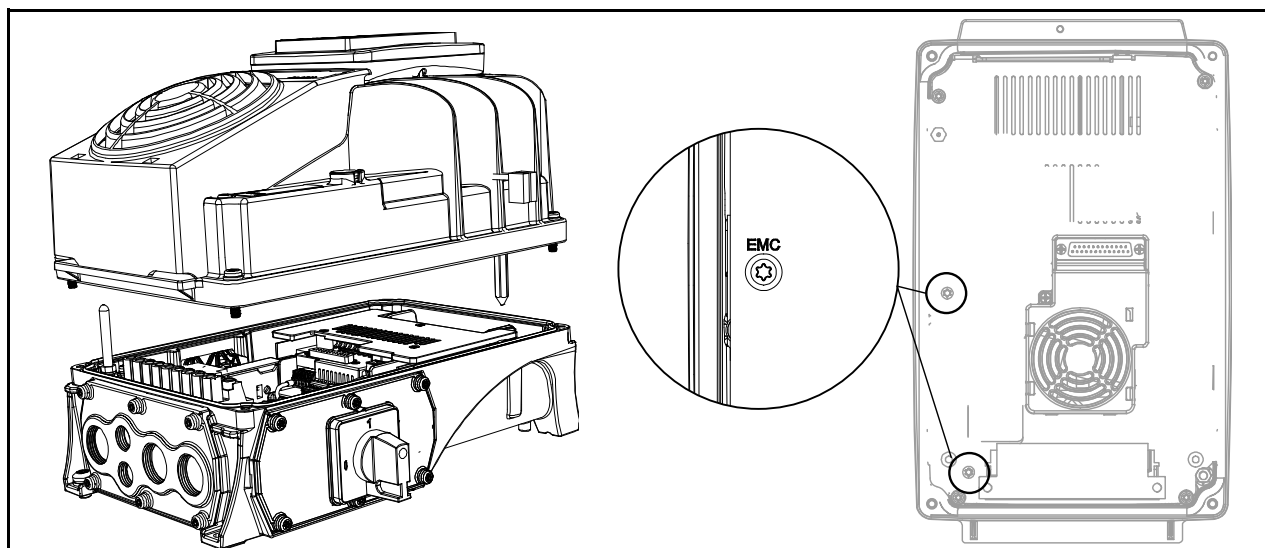
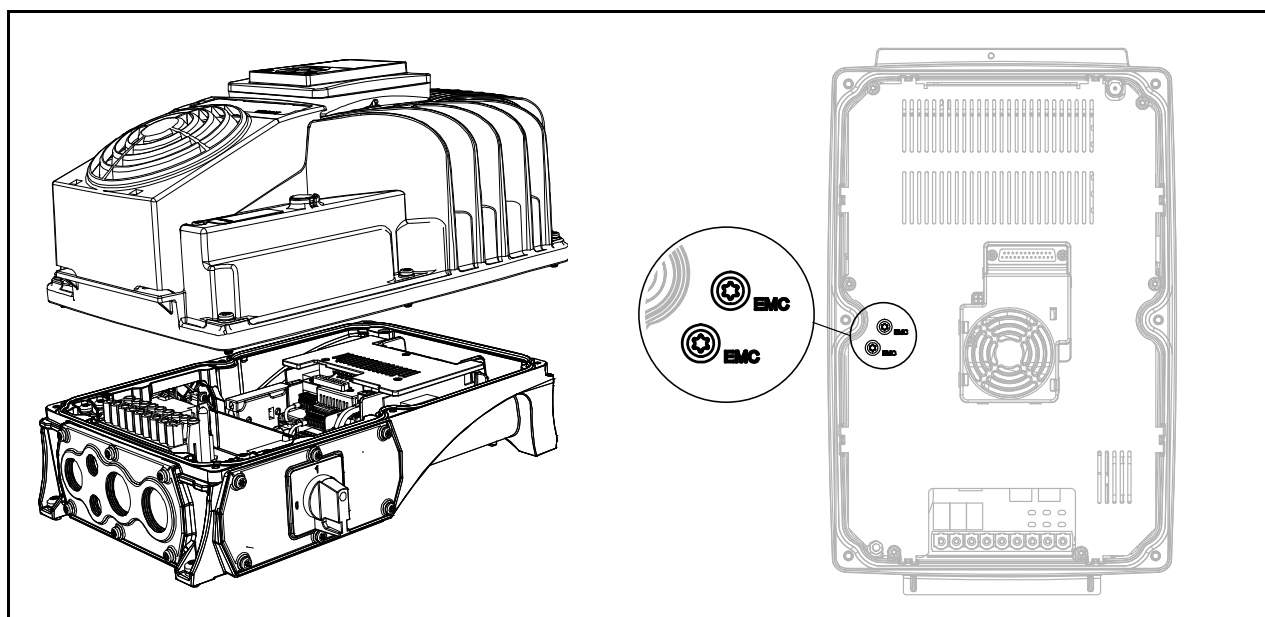
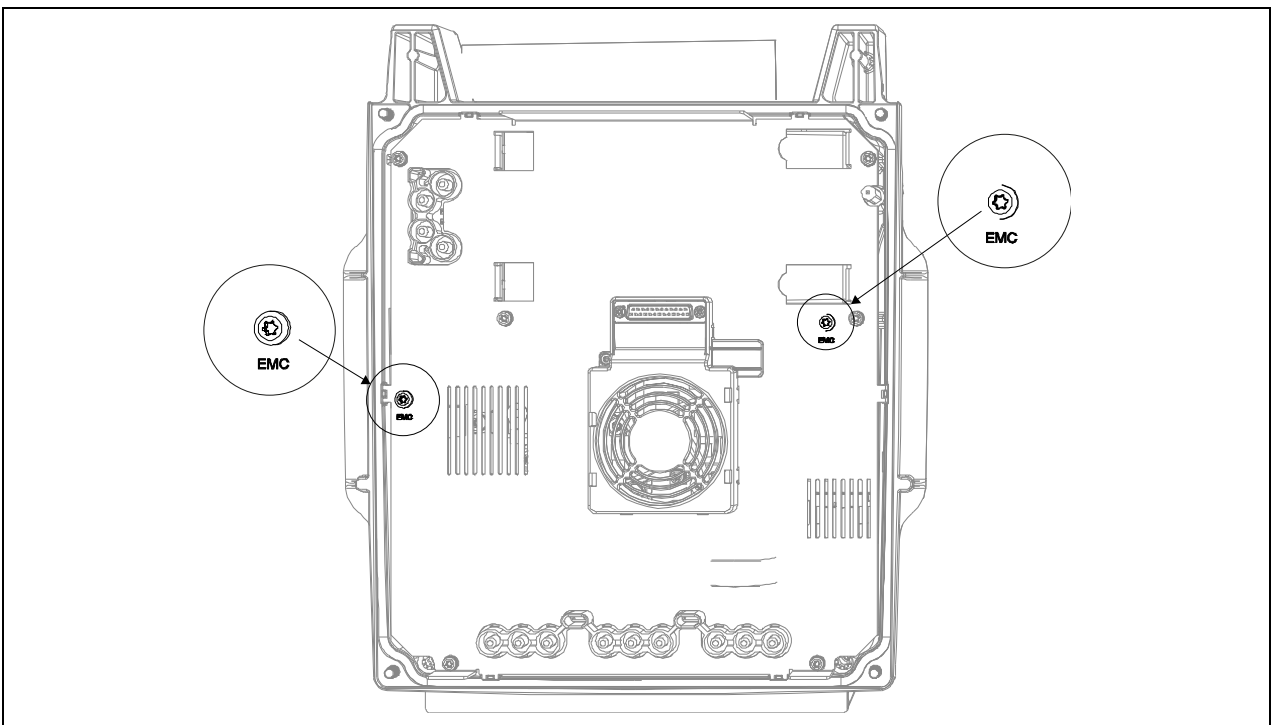

Figure 39. Locations of EMC screws in MM4.
Figure 40. Locations of EMC screws in MM5.
Figure 42. Locations of EMC screws in MM6.
- 1 Separate the powerhead and the terminal box. Turn the powerhead upside down and remove the two screws marked in Figure 39 (for MM4), Figure 40 (for MM5) and in Figure 42 (for MM6).